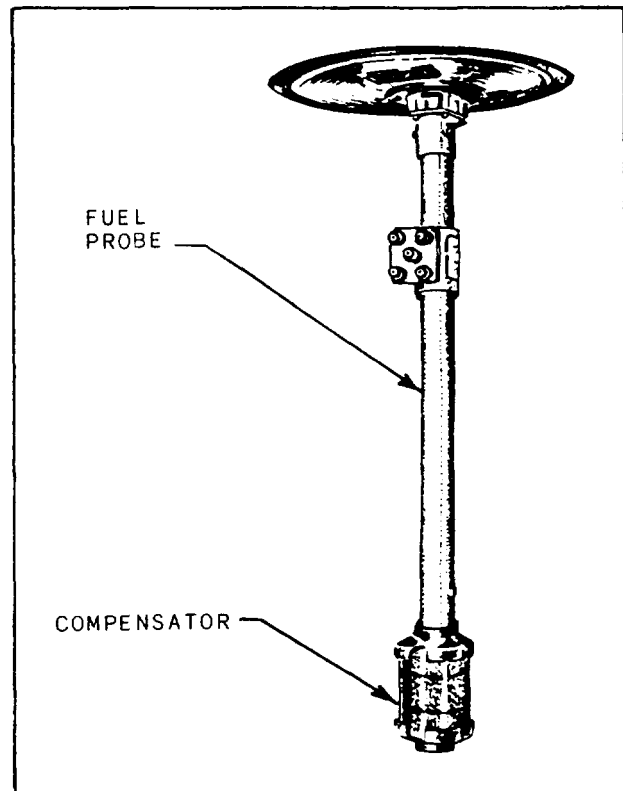

Figure 6-64.-Fuel quantity transmitter.
A tank probe and a simplified version of a tank circuit are shown in figures 6-64 and 6-65. The capacitance of a capacitor depends upon three factors—the area of the plates (A), the distance between the plates (d), and the dielectric constant (K) of the material between the plates, or